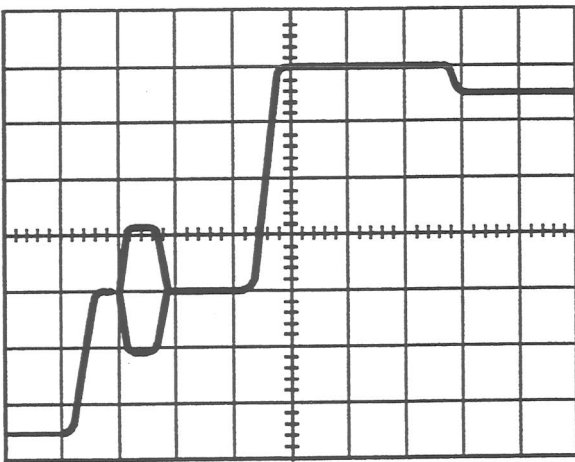

figure 13
- Select the ALT mode (24) and adjust the delay (25) so that the start of the highlighted area is aligned with the rising edge of the line sync pulse (figure 13).